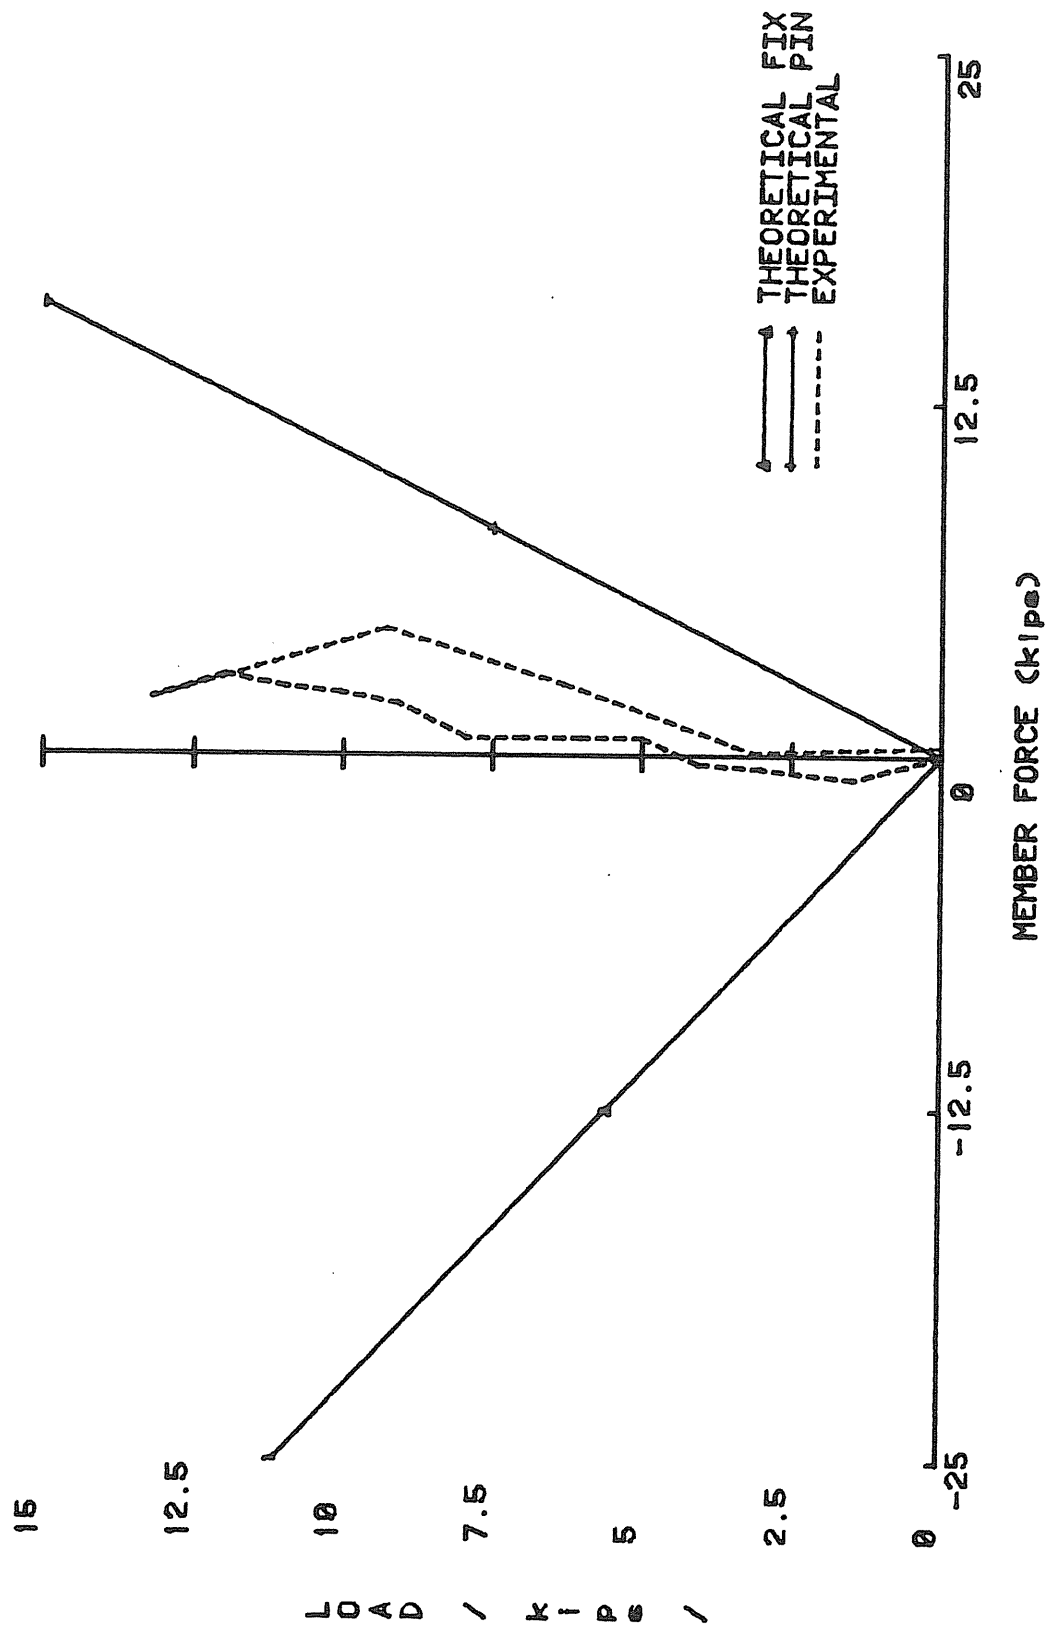

FIGURE B.6 LOAD VS. MEMBER #2 FORCE, TEST PBP2
- Figures B.6 to B.12 show that the member forces were less than predicted for all members except the force in member #48 which was greater than predicted.